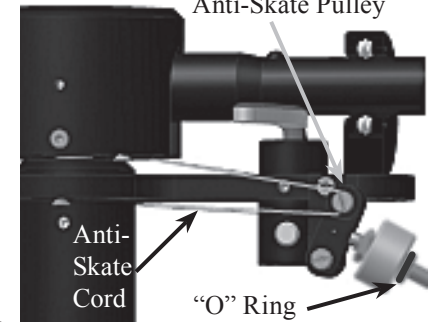

Figure 12A
- Position the Anti-Skate Cord over the Anti-Skate Pulley. Refer to figure 12A.